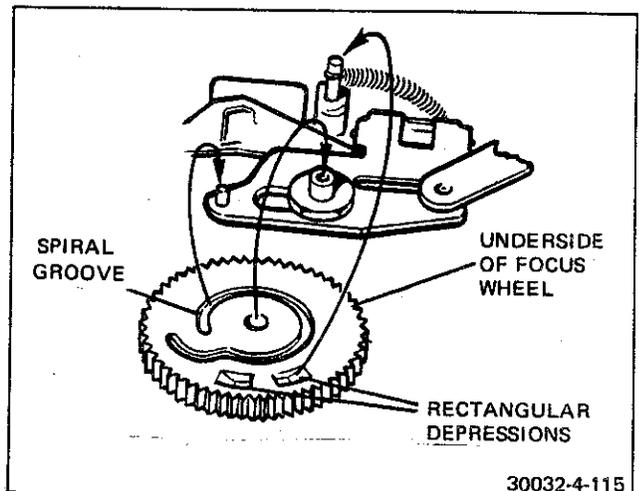

FIGURE 4-115 FOCUSWHEEL CONFIGURATION
- Examine the bottom side of the focus wheel. Note that it has a spiral groove and two rectangular depressions. See Figure 4-115. One is positioned close to the spiral groove. The positive stop pin must engage the other rectangular depression (the one farthest from the spiral groove.) The pin on the cam follower must engage the spiral groove. Install the wheel so that the foregoing conditions are met.